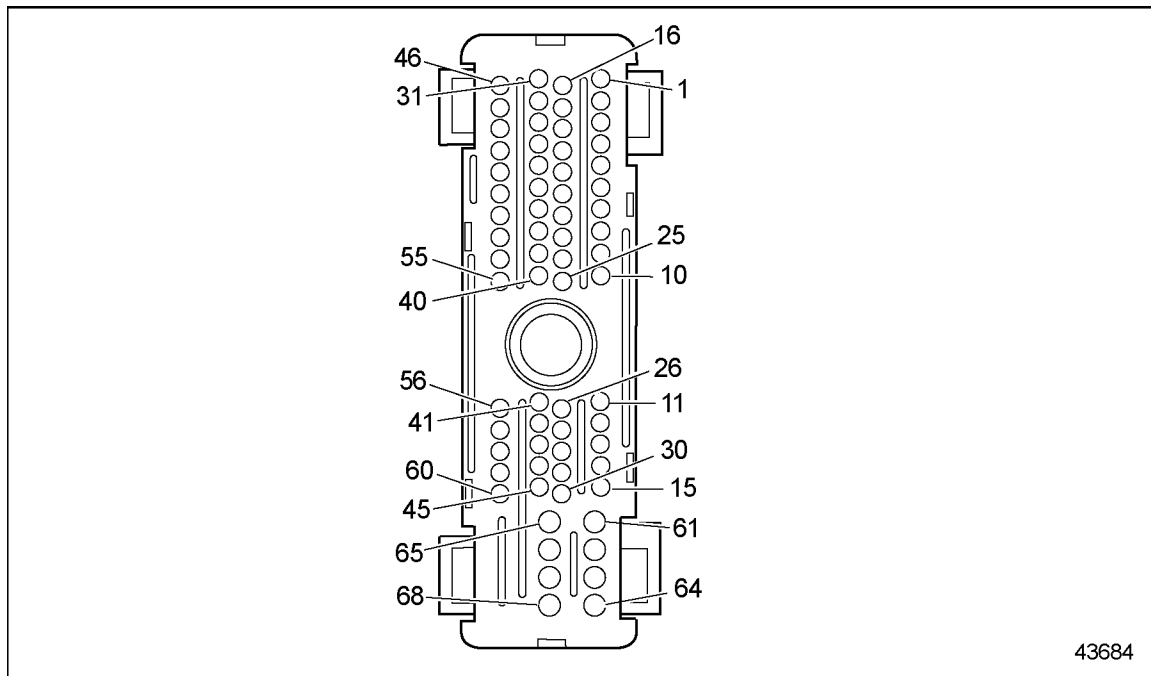

Figure 31-5 ECM/ECU Engine Harness Connector
3. Measure resistance between sockets E-2 and E-14 on the engine harness connector. See Figure 31-5.
4. Check terminals at the ECM/ECU engine harness connector (both ECM/ECU and harness side) for damage: bent, corroded and unseated pins or sockets. See Figure 31-5.